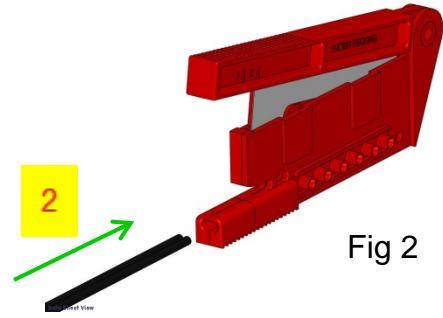

Fig 2
2. If you are using Duplex cable you can split the cable jacket as shown in Figure 2 Insert cable into slot and push down lever, (Figure 2 & 3) remove and separate the zipcord approximately 2".